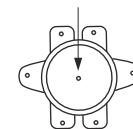

Fig. 16
- for FS2/FS6/FE2 series horizontal-type water heaters: press the button, located in the center of the thermal switch, placed near the heating element (with a round shape), until it clicks, Fig.16;
6. To drain water from the internal tank properly, you need to use the drain hole (only for FS2/FS6/FE2 line) (it is necessary to unscrew a plug, covering the drain hole), water can also be drained through a composite relief valve (Fig. 16) (unscrew the composite relief valve drain knob screw and set the drain knob to the upper position, at that hot water tap must be open, and cold water supply valve must be closed).